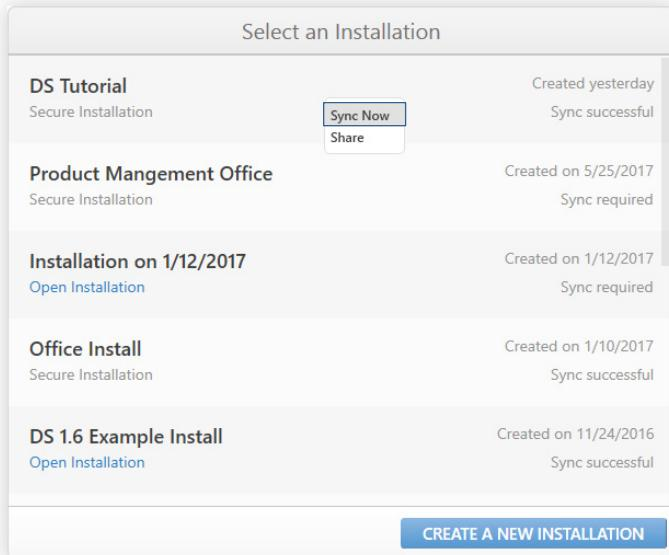

fig. 17
- **Sync individually from Existing Installations:** To sync one installation, locate it in the Existing Installations menu, right-click, and select Sync Now. (See fig. 17.)